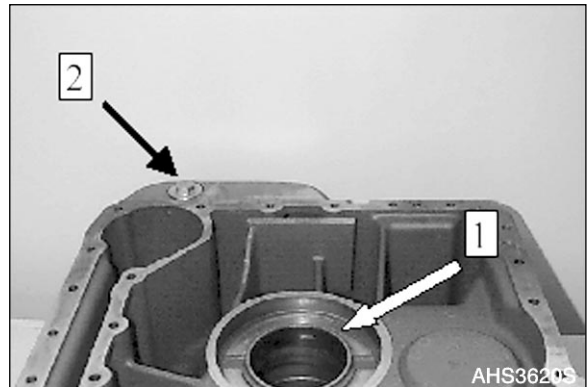

Figure 308
2. Drive the roll pin (2x8 mm (0.0787 x 0.3150 in) flush-mounted in (1, Figure 308).
3. Equip screw plug with new O-ring and install it (2, Figure 308).